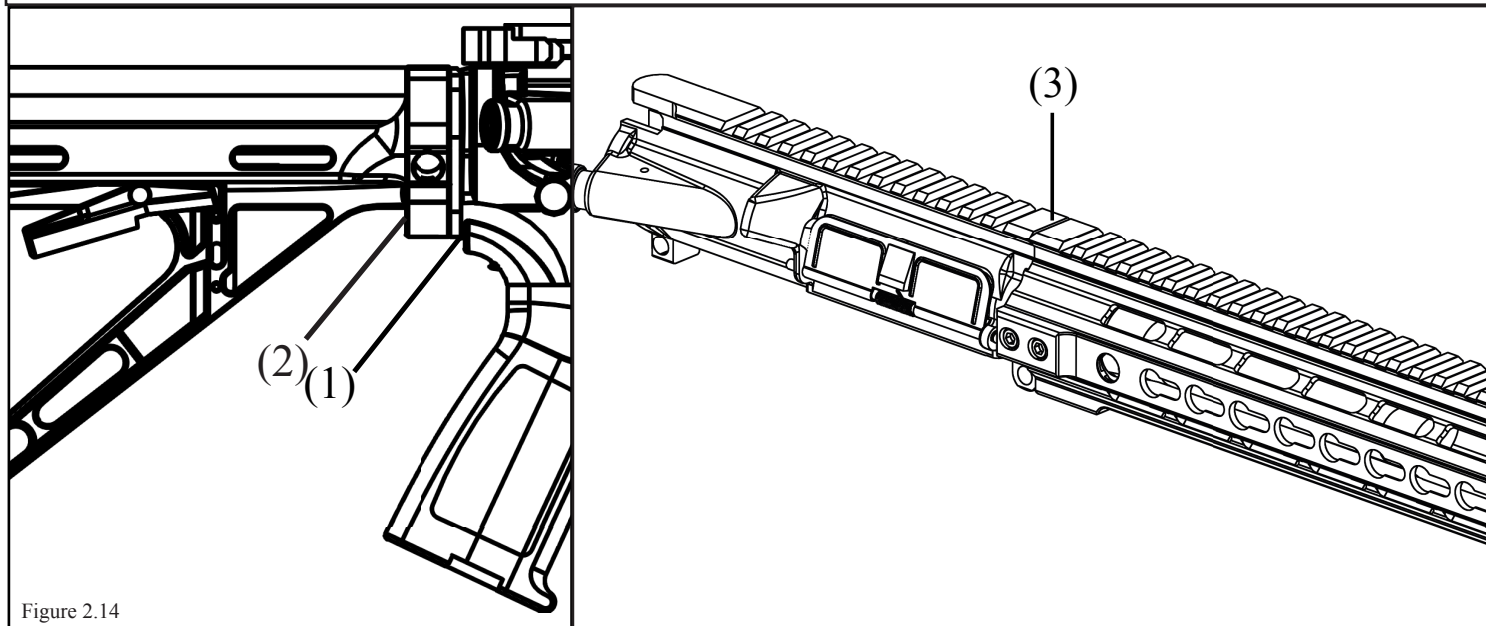

Figure 2.14
11. RIFLE CANNOT BE ZEROED	<ol style="list-style-type: none"> 1. Misalignment of handguard (Fig. 2.14, 3) <p>Contact PWS Customer Service or replace barrel</p>